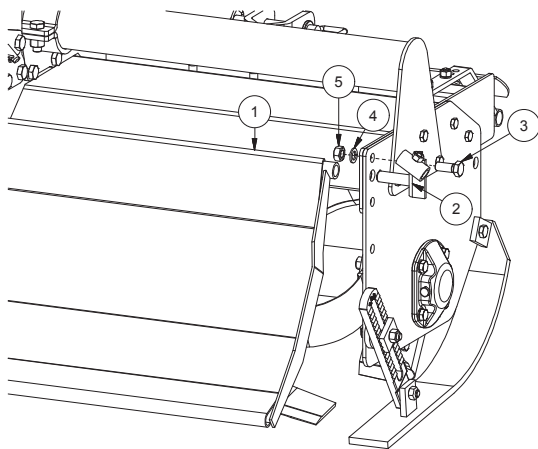

FIG. 12
- Fit read hood (1, Fig. 12): place it between the frame sides; insert the supports (2) through the hood and both the sides; stop the supports with screw (3), washer (4) and nut (5).